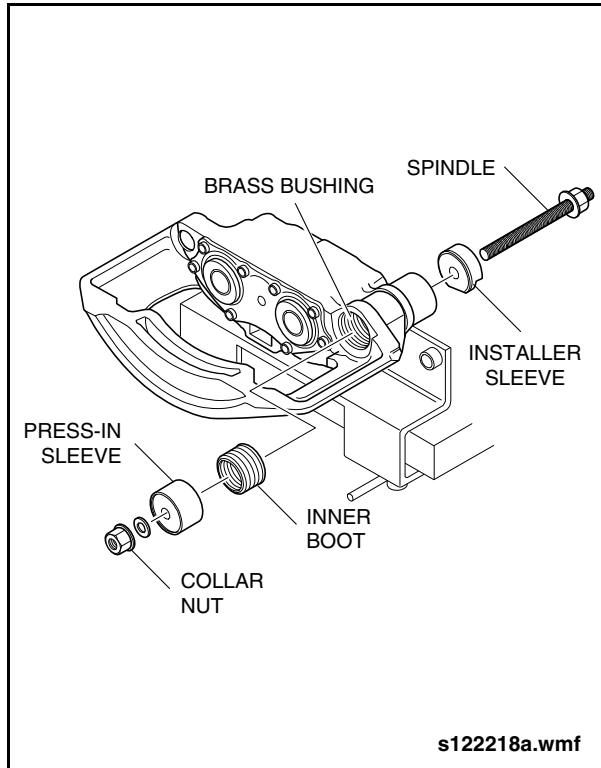

Fig. 1-65: Inner Boot Installation
- a. Insert the folds of the rubber boot into the press-in sleeve (Item 75 from special tools list). See "Fig. 1-65: Inner Boot Installation" on page 65.